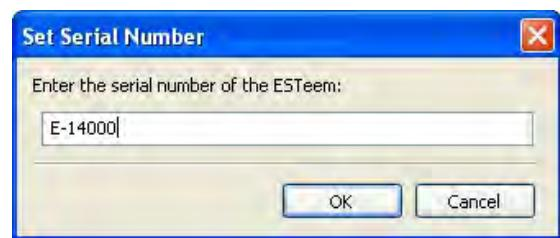
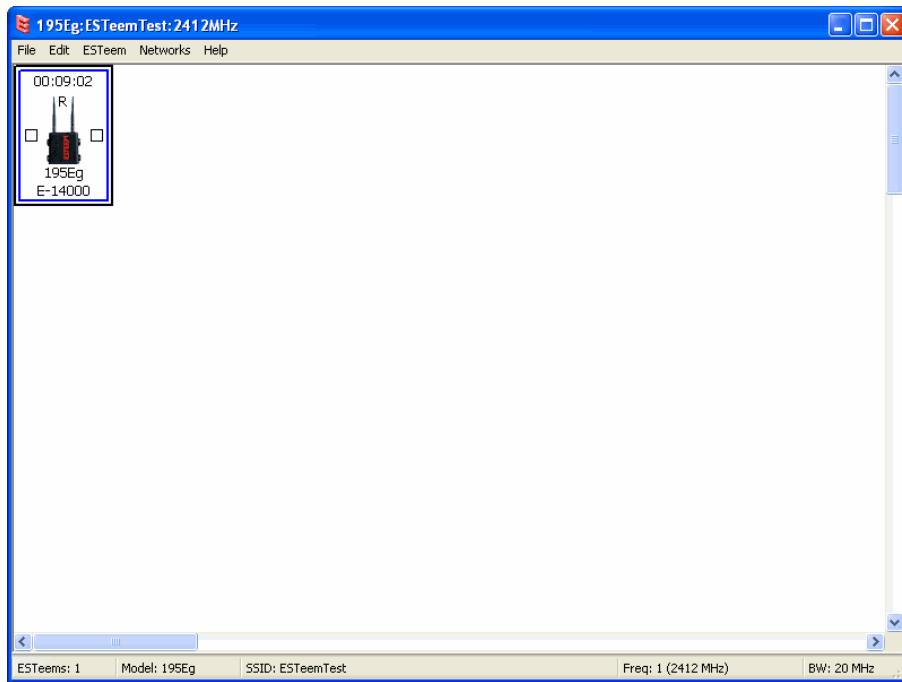

Figure 10: Enter the Serial Number
Figure 11: Main Office ESTeem 210
2. Enter in the ESTEEM Model 210 serial numbers used for the example (for example enter E-14000 in the Set Serial Number Box) and press the OK button (Figure 10). The ENC Utility will look up the ESTEEM 210's serial number in the database and match the correct Wireless LAN MAC (WLAN MAC) address to the modem. This WLAN MAC address will be displayed above the modem symbol on the screen (Figure 11).